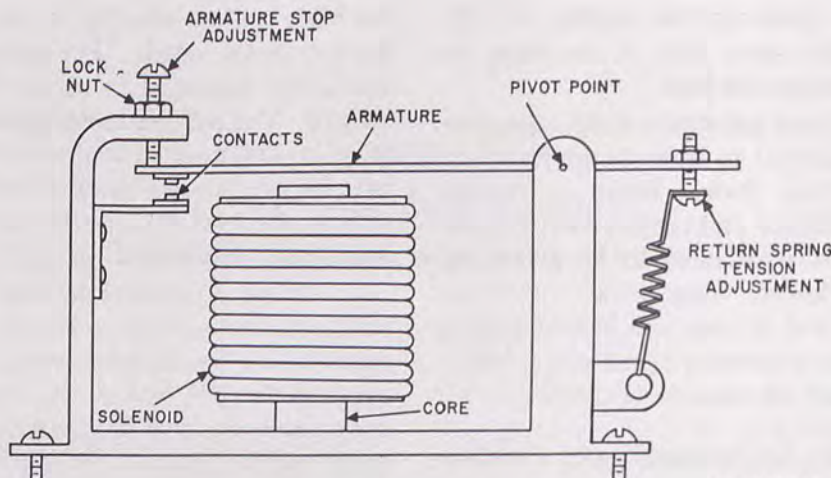

Figure 85. Relay assembly.
e. Figure 85 shows a relay assembly. If the contacts stick together they probably are pitted. If they are not too badly pitted they can be smoothed with a fine grade of crocus cloth. If they are deeply pitted they must be replaced. If the contacts are not replaceable the entire relay assembly must be replaced.